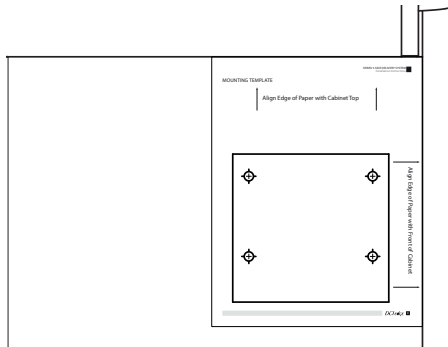

FIGURE 1
- With a $\frac{7}{32}$ " hex key and a $\frac{9}{16}$ " wrench, install the **Mounting Assembly** to cabinet or wall with the supplied mounting hardware found in the **Side Delivery Installation Kit**. **Figure 1**